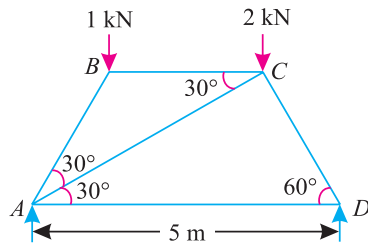

Fig. 14.20.
2. Figure 14.20 shows a framed structure of 5 m span. The structure carries vertical loads as shown in the figure. Find the forces in the members of the structure and tabulate the results.